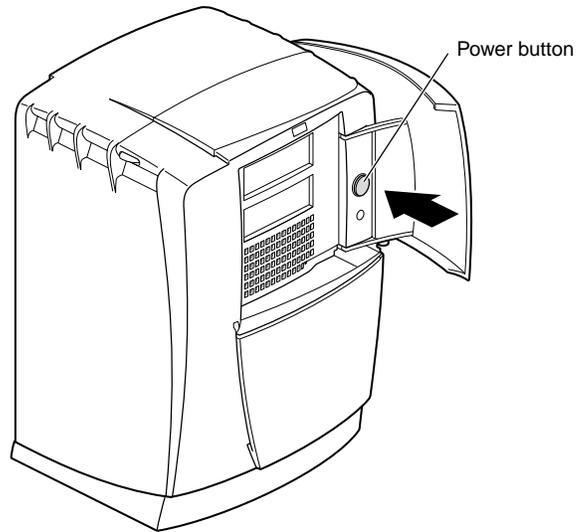

Figure 1-15 Powering On the Octane2 Workstation
12. Press the power button on your workstation, as shown in Figure 1-15.